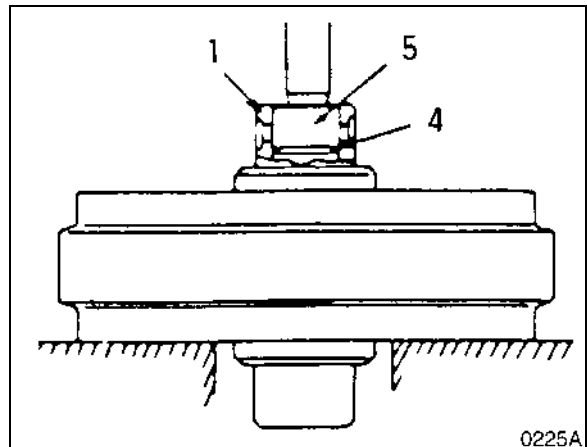

Figure 22
3. Use a press to remove the bearing from the axle. Separate the O-ring (4, Figure 22) from the axle and insert it into the bearing.